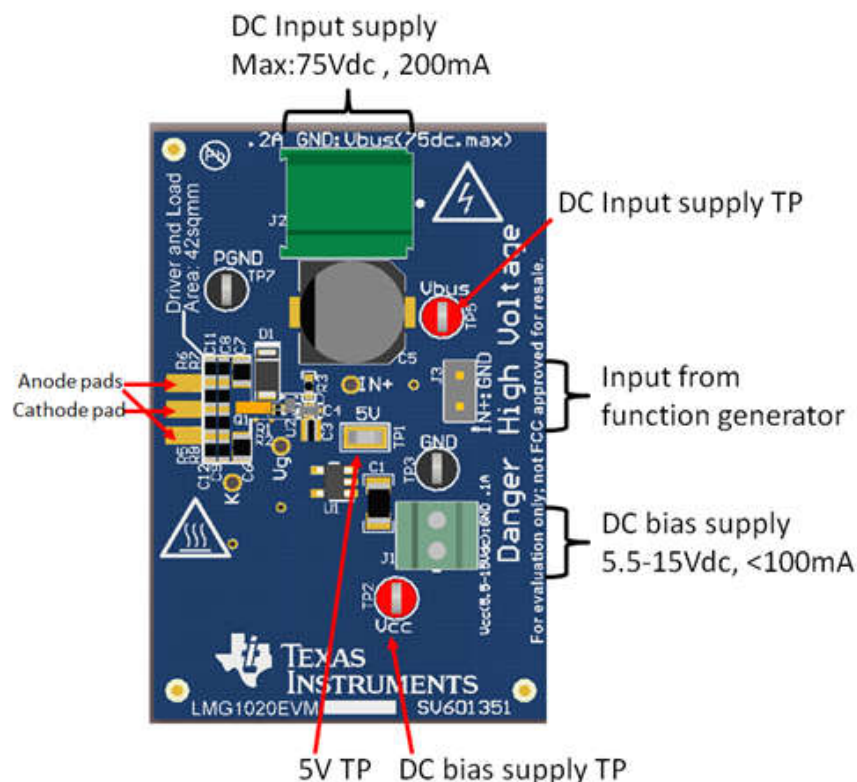

Figure 9-1. Recommended Connection Points and Feature Description
Connect the input and bias supplies as indicated in Figure 9-1.
1. Connect the input(J2) and bias supplies(J1) as shown in Figure 9-1, but do not power them on yet.
4. Power up the input supply(J2) (as shown in Figure 9-1) and set to the desired input voltage, but no higher than 75Vdc. Set the current limit to 0.2 A. It is recommended to begin measurements at lower voltage, such as 10 V to ensure the correct waveforms are being captured.